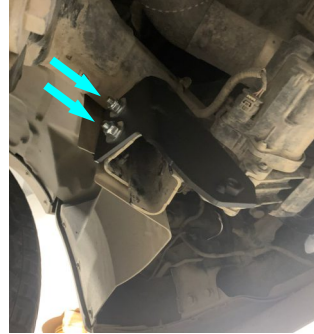

Fig. 2
2. Install left bracket (item 2) and right bracket (item 3) as shown in fig.2. Secure them using flat washers M10, nuts M10 (items E, F) and insert nuts M10 from step 1.